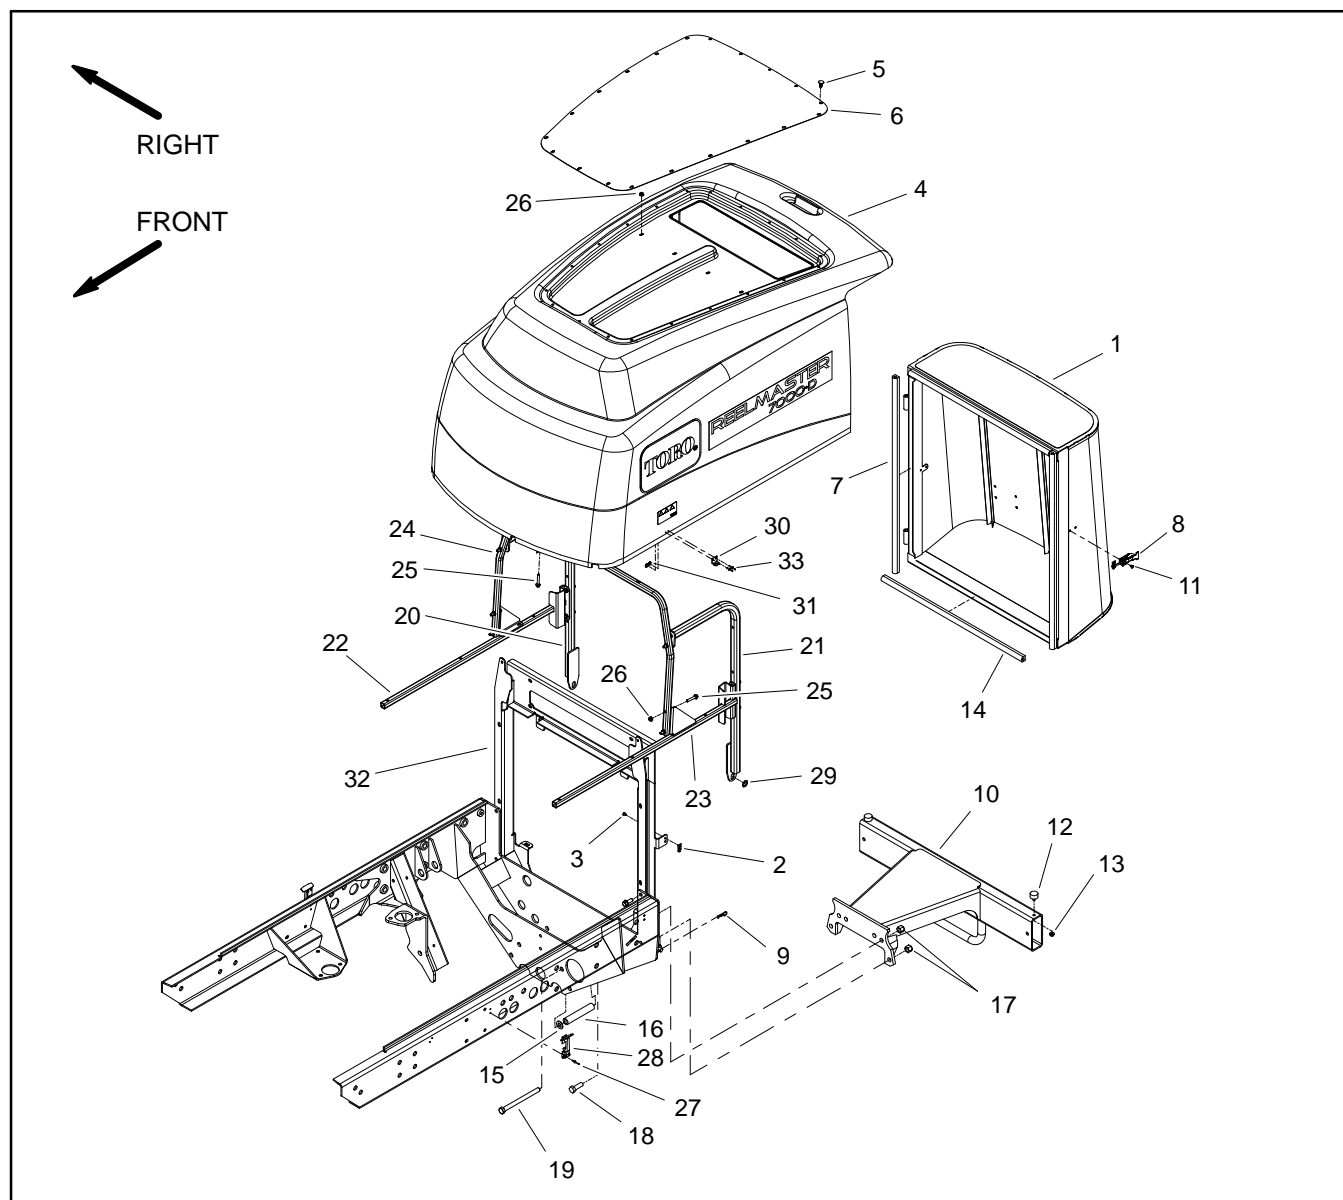

Figure 17
### **Removal (Fig. 17)**
5. If necessary, disassemble hood using Figure 17 as a guide.
### **Installation (Fig. 17)**
1. If components were removed from hood, assemble hood using Figure 17 as a guide.